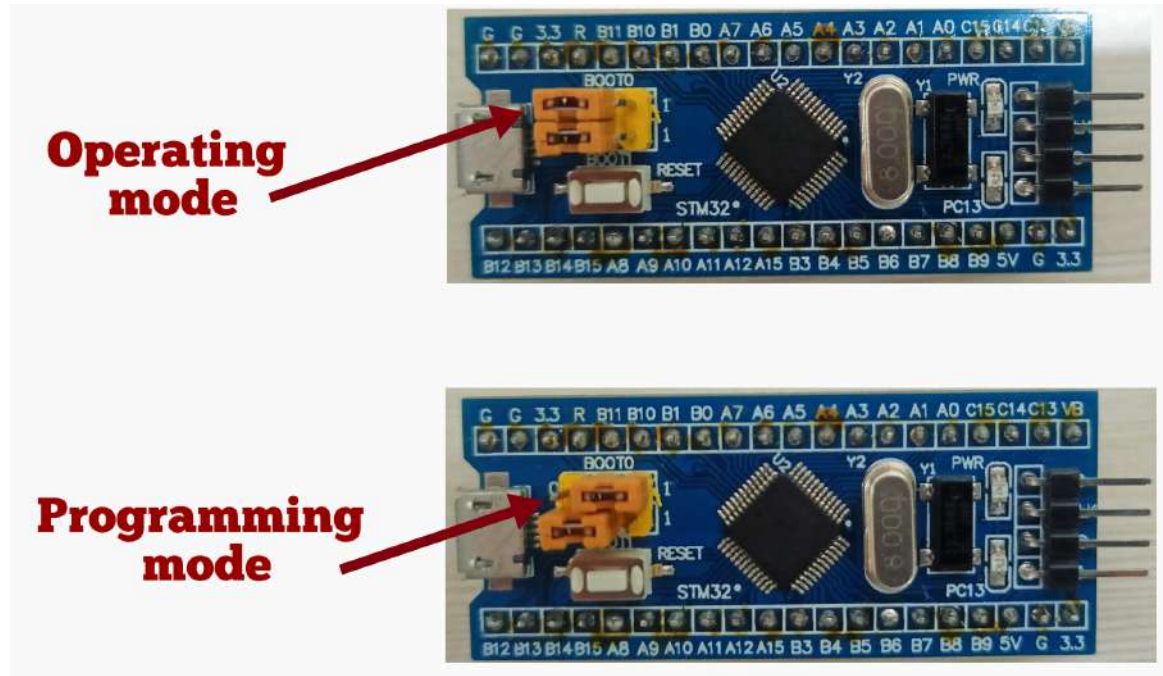

Figure 12.1.1.7.1: STM32 Operating and Programming mode
12.1.1.7. To make the stm32 board into Programming mode, by setting the aligners to programming mode as shown in Fig 12.1.1.7.1. This configuration will ensure that the microcontroller enters the system memory programmer on reset.
12.1.1.11. After flashing, the inbuilt LED present on the stm32f103c8 will start blinking and then change the STM32 board to operating mode as shown in Fig 12.1.1.7.1 in order to run your code from the main flash memory.
12.2.3.6. Before flashing code to STM32 set the STM32 board to Programming mode as shown in Fig. 12.1.1.7.1, then change the mode to Operating mode as shown in Fig. 12.1.1.7.1 after flashing the code inorder to run your program from main memory.
12.3.2.5. Before flashing code to STM32 set the STM32 board to Programming mode as shown in Fig. 12.1.1.7.1, then change the mode to Operating mode as shown in Fig. 12.1.1.7.1 after flashing the code inorder to run your program from main memory.